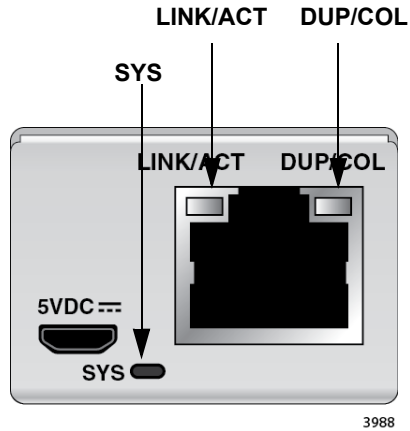

Figure 1. SYS and Copper Port LEDs
**LEDs** Figure 1 shows the SYS and copper port LEDs.